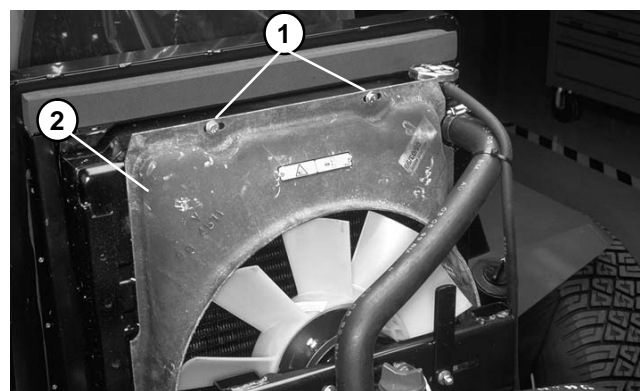

Figure 33
10. Remove four locknuts, cap screws, and flat washers securing the fan shroud to the radiator (Fig. 33).
6. Secure fan shroud to the radiator with four cap screws, flat washers, and locknuts (Fig. 33).